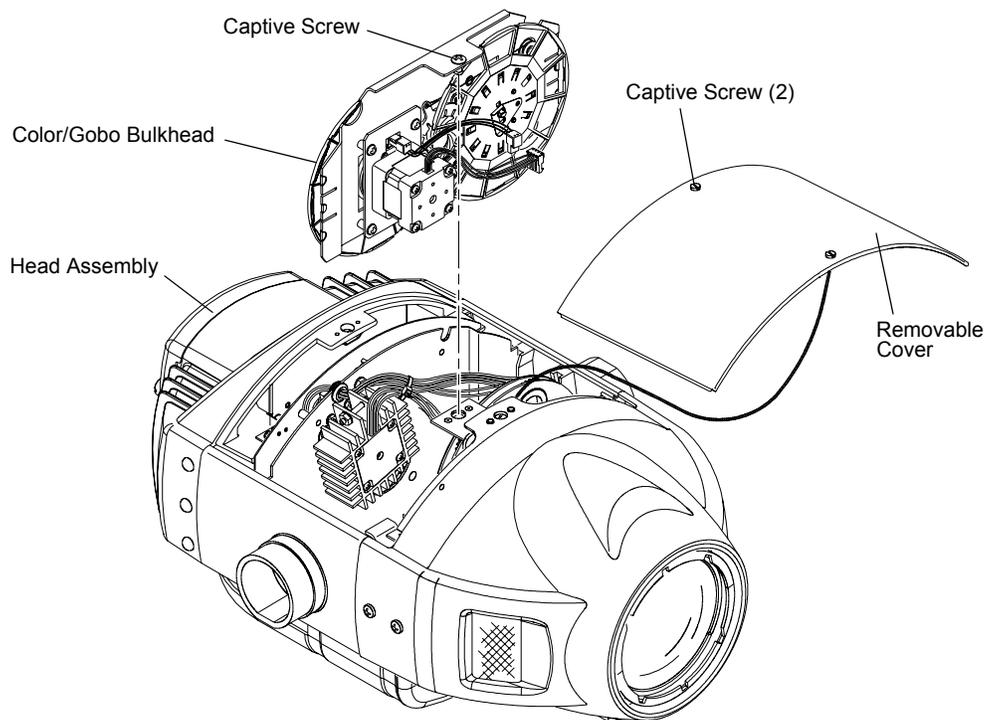

Figure 4-3: Removing Color/Gobo Bulkhead
- Step 2. At head assembly, turn two captive screws one-quarter turn and remove cover (it will remain attached by tether). **(Figure 4-3.)**
Step 7. Re-install color/gobo bulkhead, as required, and re-connect cables to Yoke Termination PCB (**Figure 4-3.**)
- Step 2. At head assembly, turn two captive screws one-quarter turn and remove cover (it will remain attached by tether). (Refer back to **Figure 4-3**.)